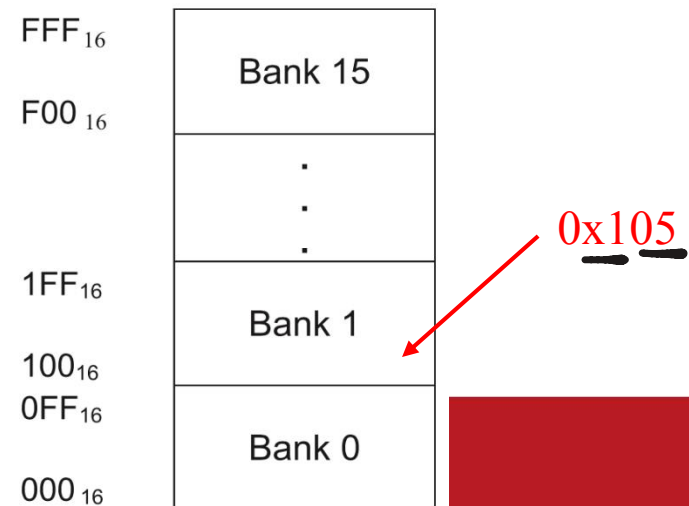

FIGURE 3.1 PIC18F data memory.
- Figure 3.1 shows a simplified data memory layout of the PIC18F. The high 4 bits of an address specify the bank number.